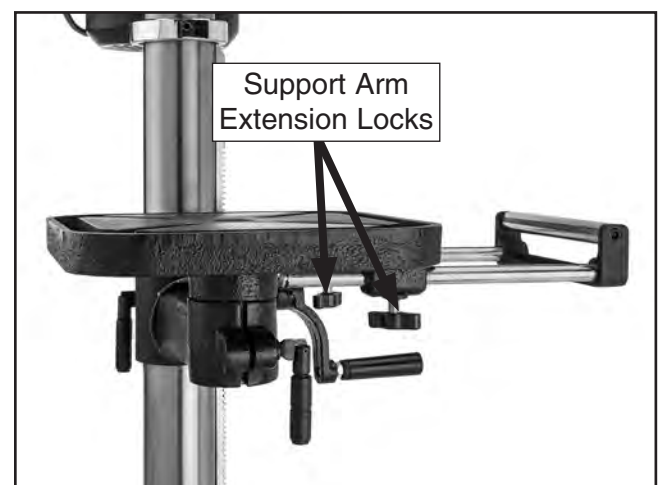

Figure 32. Support arm extension locks.
1. Loosen support arm extension locks (see **Figure 32**).